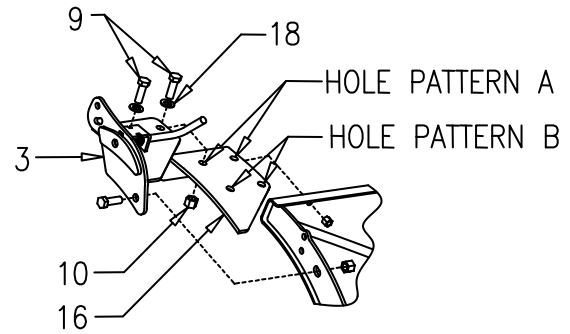
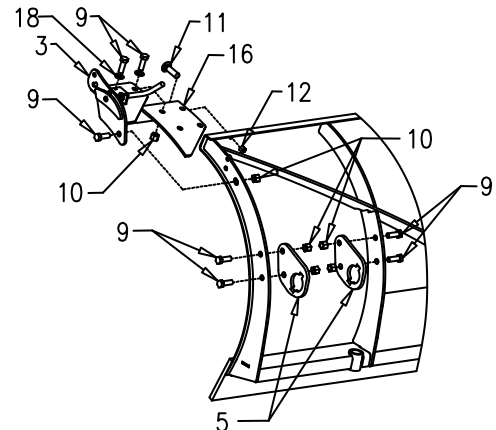

Figure 2. XT hole reference
Figure 3. Mount Bracket Locations
- 4) Mount Driver Side Spring Bracket Base Plate (16) to plow using one 3/8"-16 X 1-1/4" Carriage Bolt (11), and one 3/8" -16 Nylon Lock Nut (12). Do not tighten fasteners.
- 5) Mount Driver Side Spring Bracket (3) to plow using one 1/2"-13 X 1-1/2" Hex Head Bolt (9), one 1/2"-13 Nylon Lock Nut (10) and to Spring Bracket Base Plate (16) using two 1/2"-13 X 1-1/2" Hex Head Bolts (9), two 1/2" flat washers (18) and two 1/2"-13 Nylon Lock Nut (10). Super Duty XT straight blade Plows will use hole pattern B all other applications use hole pattern A. See Figure 2. Do not tighten fasteners. See Figure 3.
- 6) Bolt Plow Rib Bracket (5) to inside of Outside Plow Rib. See Figure 3. Do not tighten fasteners.
- 9) Bolt second Plow Rib Bracket (5) to outside of intermediate rib. Do not tighten fasteners.
- 10) Insert Driver Side Blade Wing (1) into Plow Rib Brackets (5).